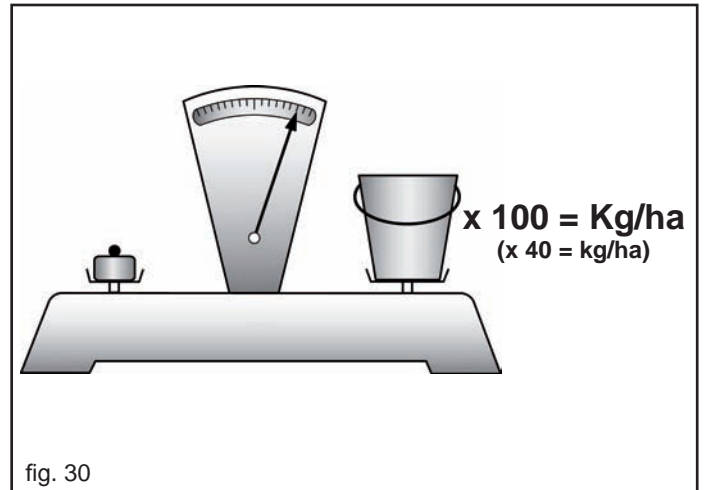

fig. 30
- 7) Weigh the seed collected in the trays and multiply the weight by 100 or 40, depending on the number of rotations made. The value obtained is the number of kilograms distributed per hectare (Fig.30).
Weigh the seed collected in the trays and multiply the weight by 100 or 40, depending on the number of rotations made. The value obtained is the number of kilograms distributed per hectare (Fig.30).